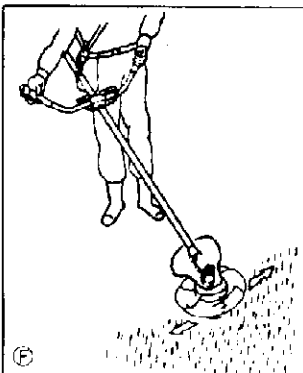

Fig. 7
- When mowing cultivated areas such as lawns hold the cutter head parallel to the ground to avoid scalping. See Fig. 7